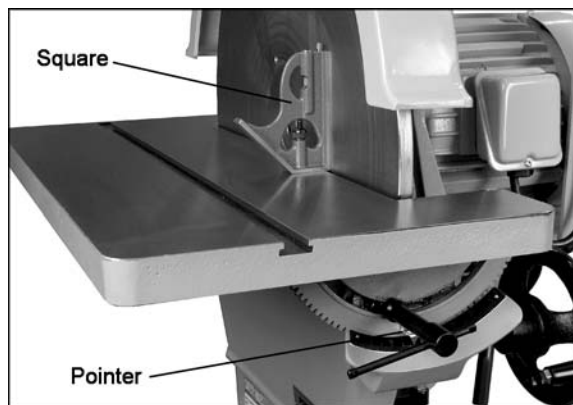

Figure 8
1. Verify the accuracy of the scale pointer by positioning the table in horizontal position, and placing a square on the table and flush against the disc. (It is easier to do this without an abrasive disc attached.) See Figure 8.